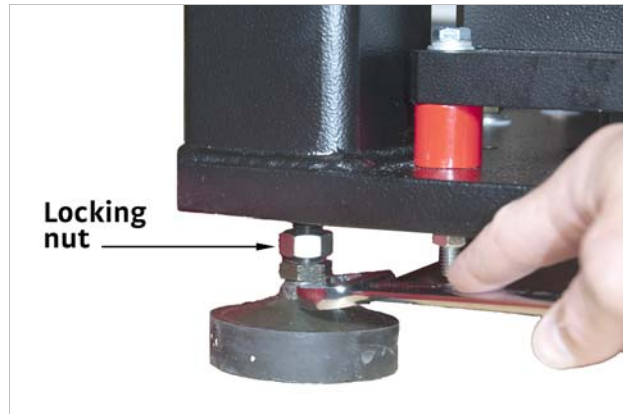

FIGURE 3-8 Locking the vibration dampening feet locking nut
- f. Using a $\frac{3}{4}$ in or adjustable wrench, lock the vibration dampening feet locking nuts up against the bottom of the probe station stand (FIGURE 3-8).